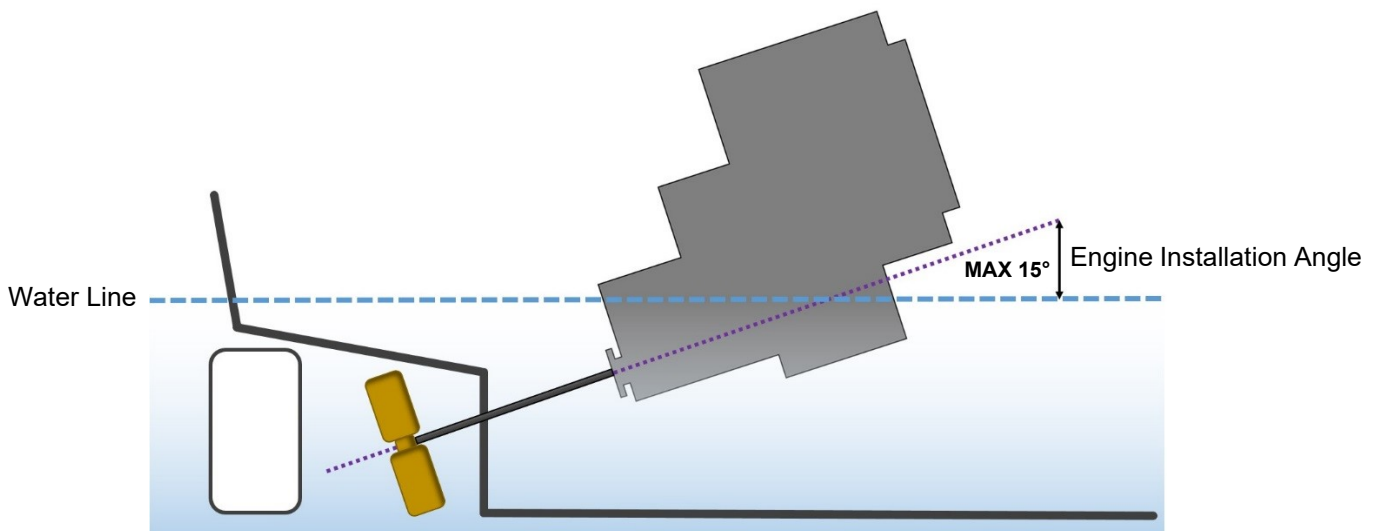

Figure 16: Maximum Engine Installation Angle
- The engine installation angle is the angle of the crankshaft centre to the water line (**Figure 16**).